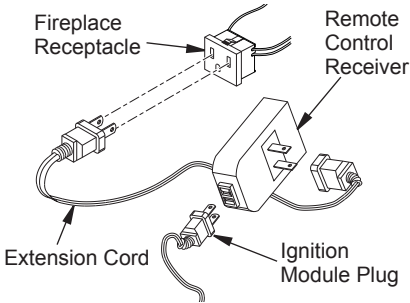

Figure 41 - Installing the WRC Remote Receiver
2. The WRC model receiver does not require a battery. Receiver can be installed by first plugging short extension cord into fireplace receptacle. Plug receiver unit into extension cord. Plug ignition module plug into receiver unit (see Figure 41).